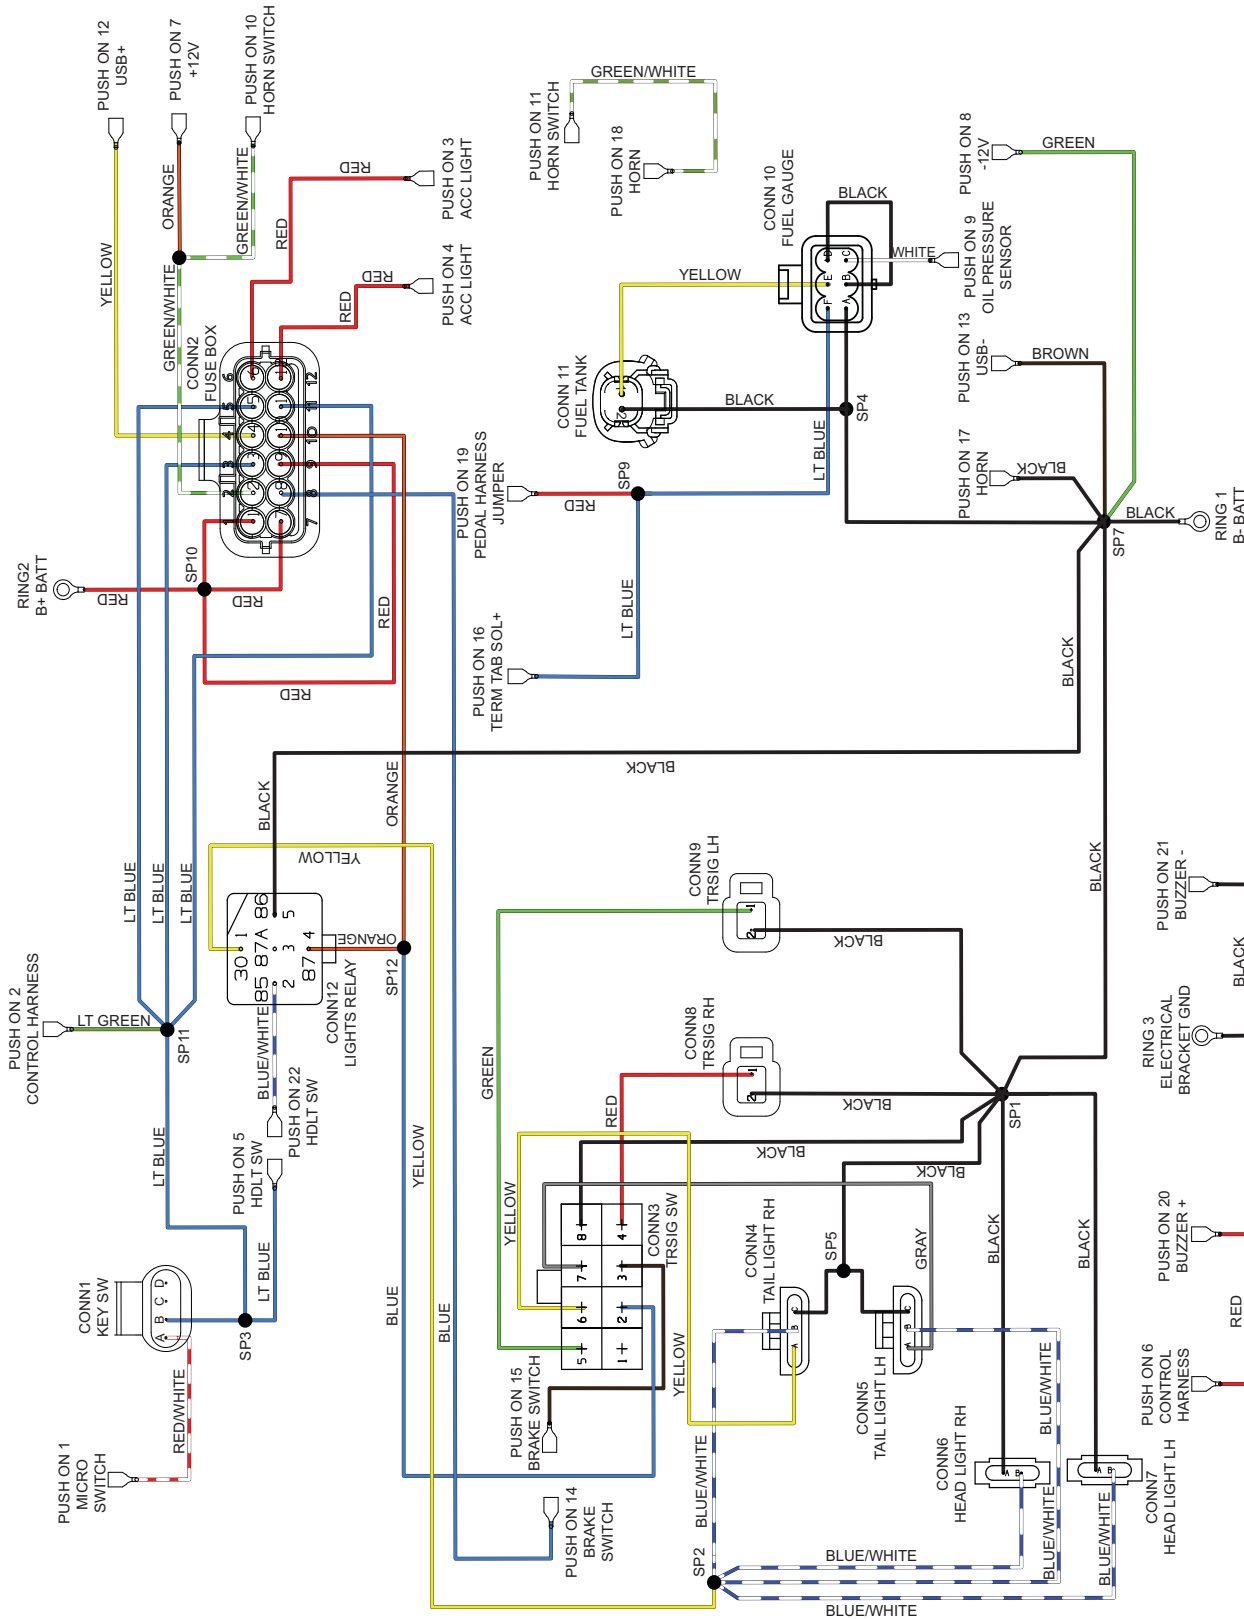

Fig. 1 Main Harness Wiring Diagram
4. Check the complete electrical system for correct circuitry (Ref. Fig. 1).